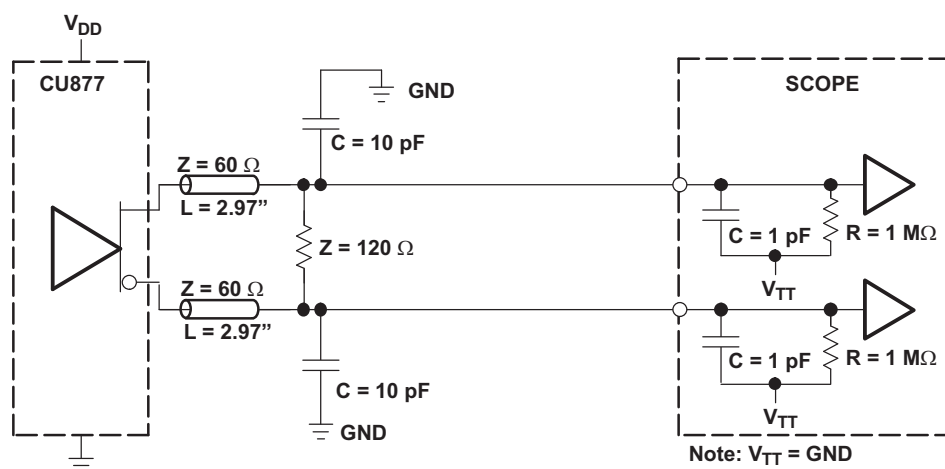
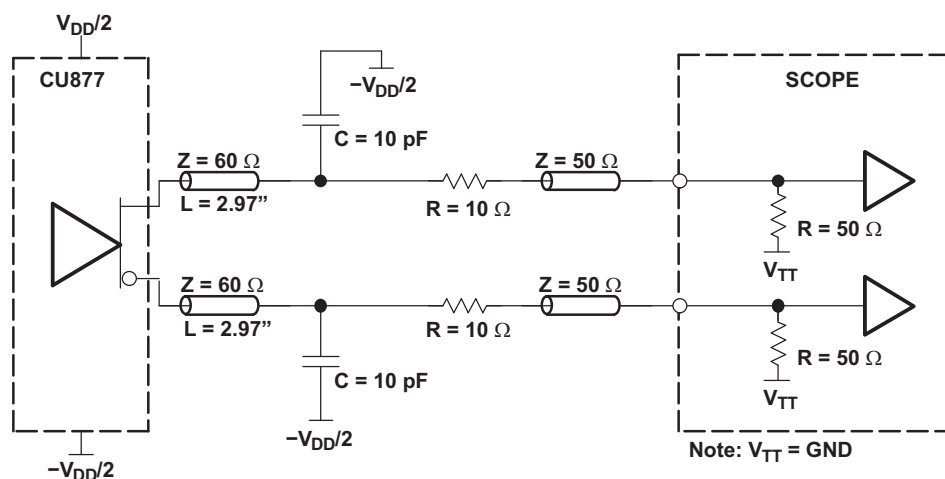

Figure 2. Output Load Test Circuit 1
Figure 3. Output Load Test Circuit 2
- (1) There are two different terminations that are used with the following tests. The load/board in Figure 2 is used to measure the input and output differential-pair cross voltage only. The load/board in Figure 3 is used to measure all other tests. For consistency, equal length cables must be used.
- (2) This parameter is specified by design and characterization.
- (3) Phase static offset time does not include jitter.
- (4) Period jitter, half-period jitter specifications are separate specifications that must be met independently of each other.
- (5) The output slew rate is determined from the IBIS model with a 120- Ω load only.
- (6) To eliminate the impact of input slew rates on static phase offset, the input skew rates of reference clock input CK and $\overline{CK}$ and feedback clock inputs FBIN and $\overline{FBIN}$ are recommended to be nearly equal. The 2.5-V/ns skew rates are shown as a recommended target. Compliance with these typical values is not mandatory if it can adequately shown that alternative characteristics meet the requirements of the registered DDR2 DIMM application.
- (7) Output differential-pair cross voltage specified at the DRAM clock input or the test load.
- (8) V_{OX} of CDCU877A is on average 30 mV lower than that of CDCU877 for the same application.